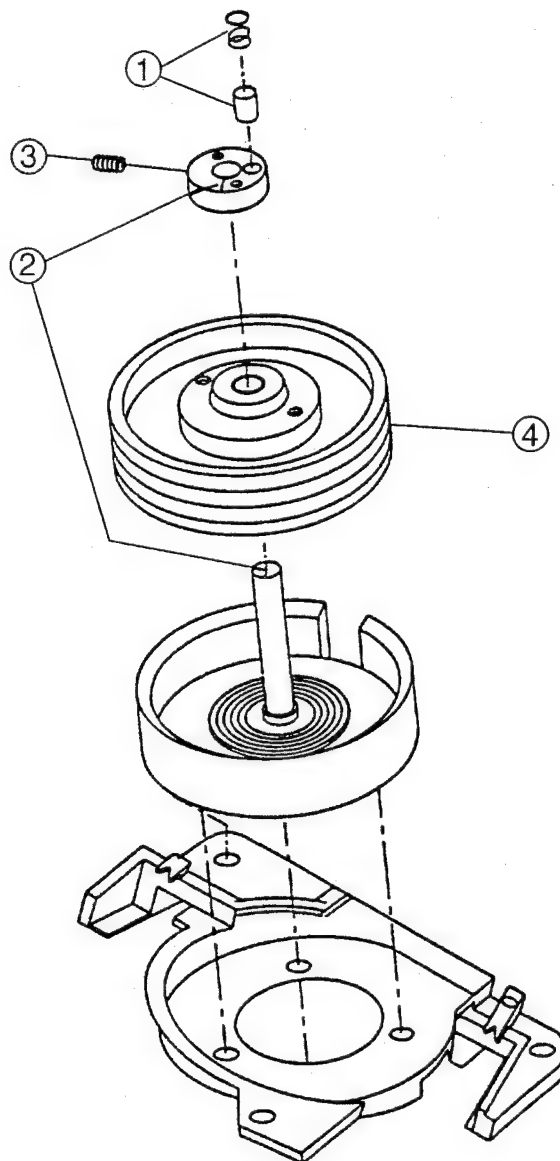

Figure 4-44(a)
- Some rotary transformer clearance shims are packaged in the servicing upper drum assembly or lower drum assembly. Install the thinnest (0.06mm) of the shims onto the lower drum shaft. (Refer to Fig. 4-44(b) for thickness.)